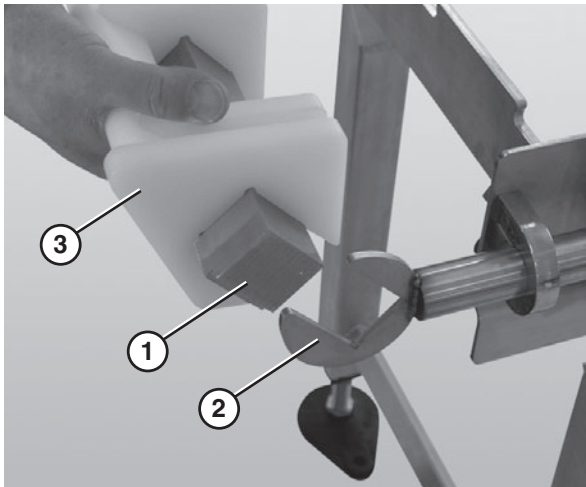

Figure 62
1. Slide the nose bar drive or transfer post (**Figure 62, item 1**) out of the nose bar drive weldment or idler hands (**Figure 62, item 2**).
2. Remove the nose bar tracking pucks (**Figure 62, item 3**), if applicable.